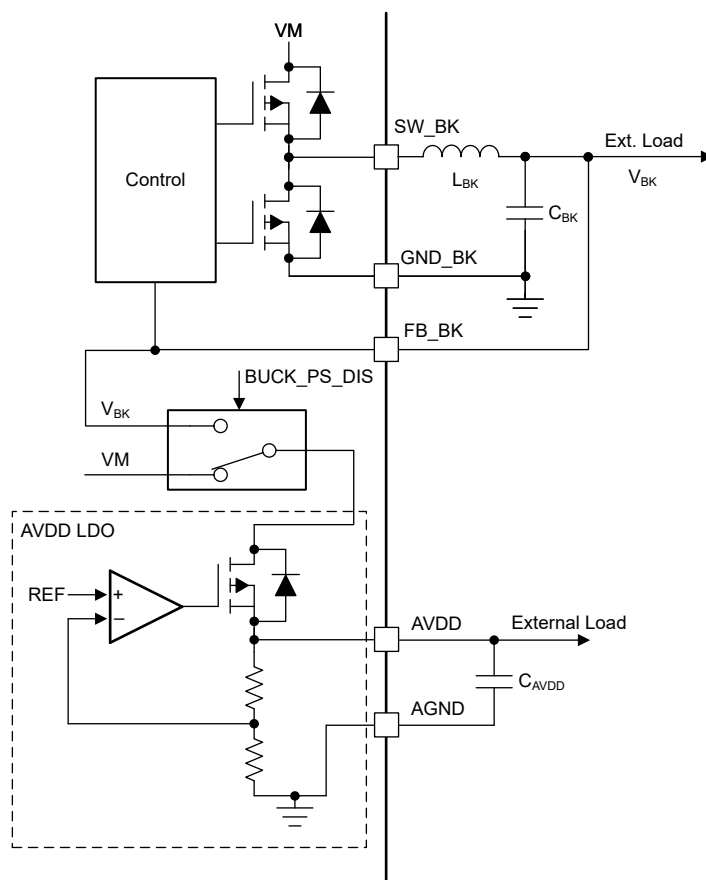

Figure 6-5. AVDD Power Sequencing from Mixed Mode Buck Regulator
The AVDD LDO has an option of using the power supply from mixed mode buck regulator to reduce the device power dissipation. The power sequencing mode allows on-the-fly changeover of AVDD LDO input from DC mains (VM) to buck output (V_{BK}) as shown in Figure 6-5. This sequencing can be configured through the BUCK_PS_DIS bit. Power sequencing is supported only when buck output voltage is set to 5-V or 5.7-V.